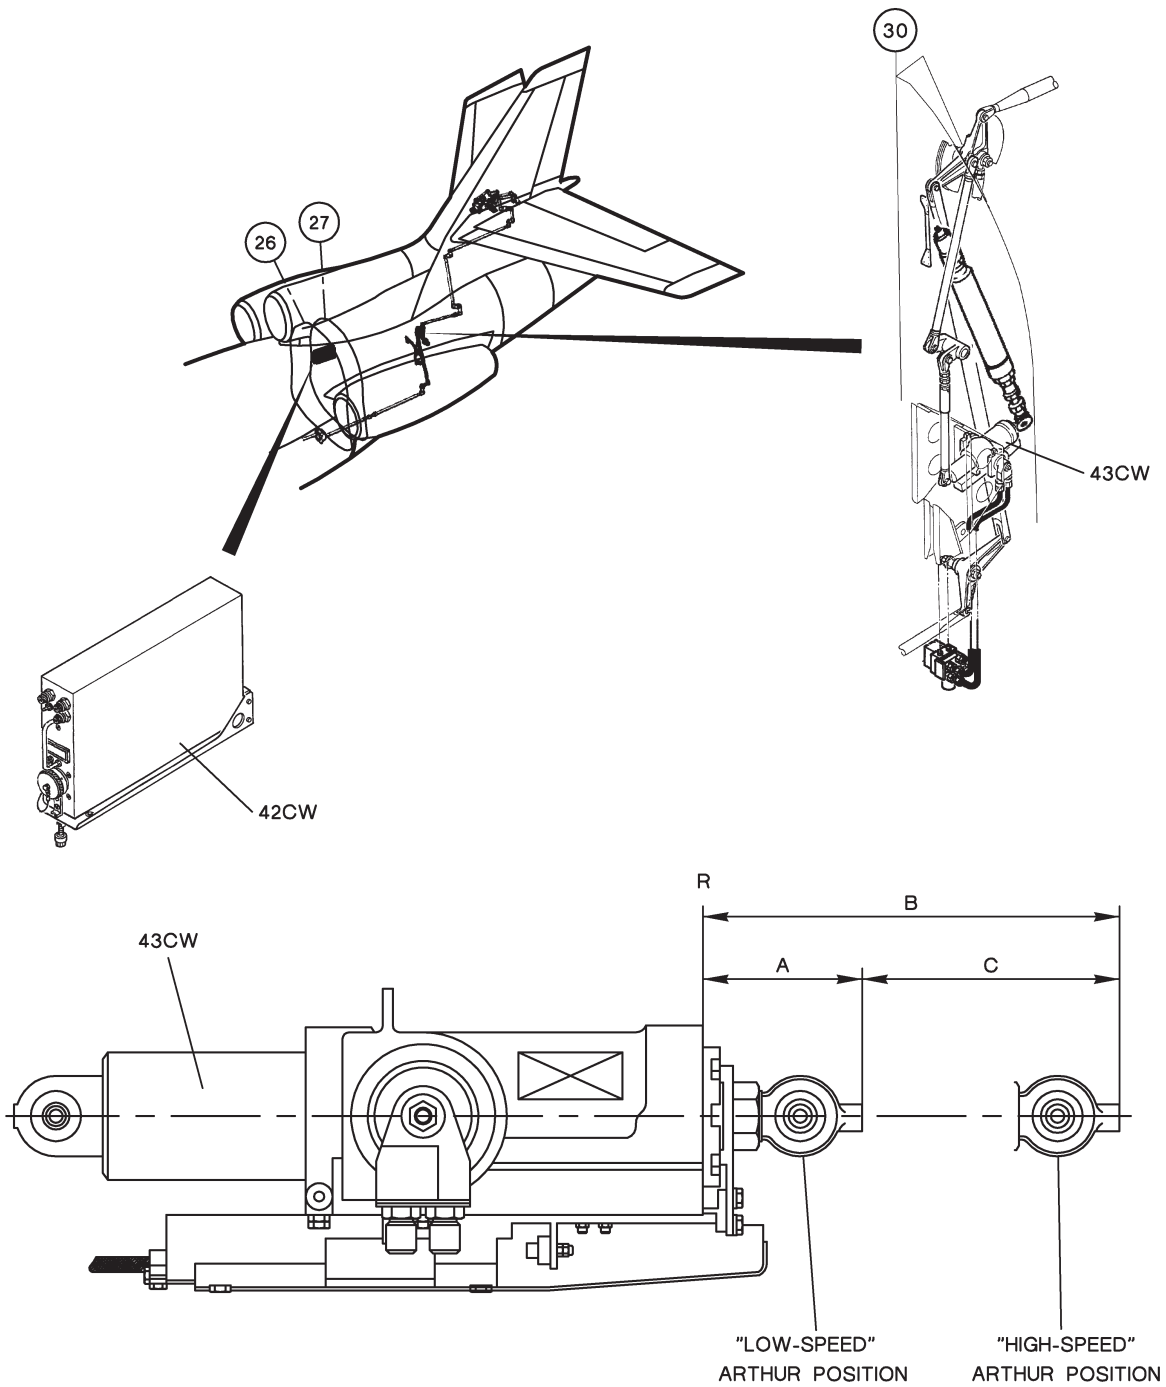

FIGURE 4: LOCATION OF PITCH ARTHUR COMPONENTS
- A. Location of Pitch Arthur Components (Refer to Figures 4 and 5)
- C. Set Horizontal Stabilizer (HS) deflection to $-4^{\circ}30'$.
- E. Measure and record dimension (A) between a reference point (R) located on the variable bellcrank body and another point located at the end of the variable bellcrank rod (see Figure 4 or 5).
- (1) Set HS deflection, in 1° increments, from -4° to $+1^{\circ}$.
- (2) For each HS deflection angle, measure and record dimension (B) between reference point (R) (chosen to measure dimension (A)) located on the variable bellcrank body and another point located at the end of the variable bellcrank rod (see figure 4 or 5).
- (3) Calculate the difference between dimension (B) and dimension (A).
NOTE: This difference represents travel value (C) of pitch ARTHUR variable bellcrank (43CW) (refer to Figure 4 or 5).
- (4) Record the measured values in Table 1, column "VALUE NOSE UP", opposite the corresponding HS deflection angle value.
- (5) Make sure that the recorded values are in compliance with Table 1, columns "MIN. "ARTHUR" TRAVEL" and "MAX. "ARTHUR" TRAVEL".
- (6) Set HS deflection to $+1^{\circ}30'$.
- (7) Do the same operations listed above and record the measured values in Table 1, column "VALUE NOSE DN", setting HS deflection, in 1° increments, from $+1^{\circ}$ to -4°